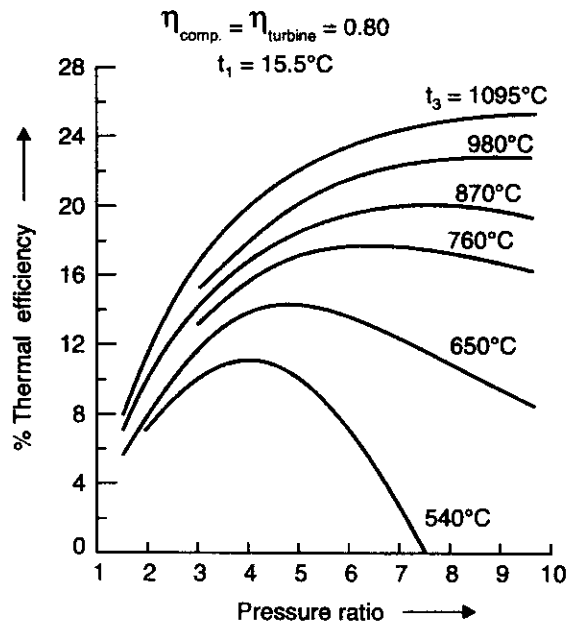

Fig. 5.19. Effect of pressure ratio and turbine inlet temperature.
- As the pressure ratio increases, the thermal efficiency also increases until it becomes maximum and then it drops off with a further increase in pressure ratio (Fig. 5.19). Further, as the turbine inlet temperature increases, the peaks of the curves flatten out giving a greater range of ratios of pressure optimum efficiency.